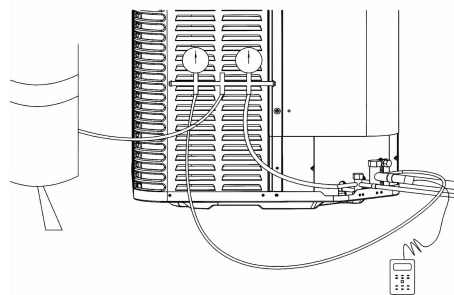

Figure 15.5
- Connect gauges to refrigerant bottle and unit as illustrated (Fig. 15.5).